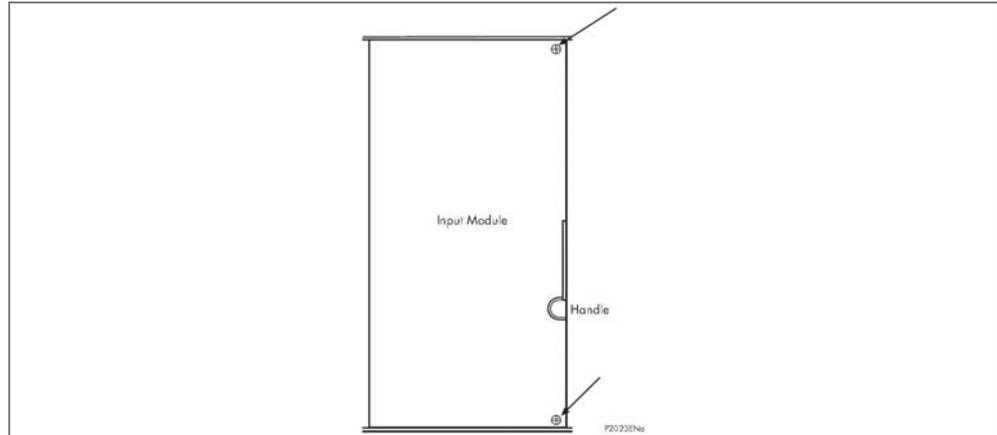

Figure 6 - Location of securing screws for input module
1. The module is secured in the case by two screws on its right-hand side, accessible from the front of the relay, as shown in Figure 6. Remove these screws carefully as they are not captive in the front plate of the module.